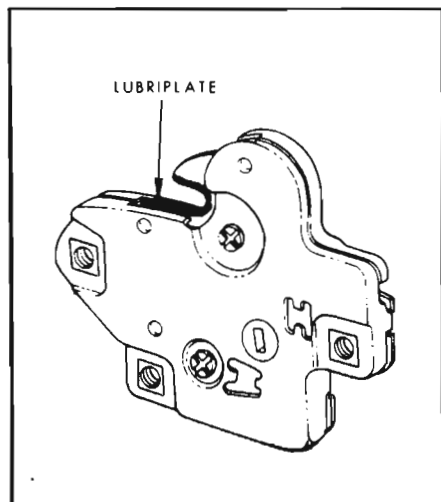

Figure 1-17—Rear Compartment Lid Lock Bolt Lubrication
6. Rear Compartment Lid Lock - Apply a thin coat of Lubriplate or equivalent to striker bolt as shown in Figure 1-17.